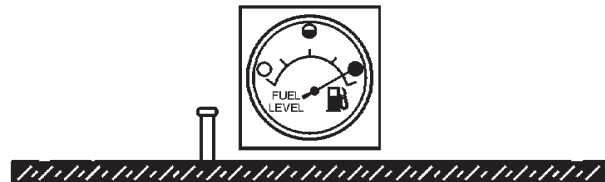

Figure 34. Full Fuel Tank
3. **NEVER overfill** fuel tank – It is important to read the fuel gauge when filling trailer fuel tank. **DO NOT** wait for fuel to rise in filler neck (See Figure 34).